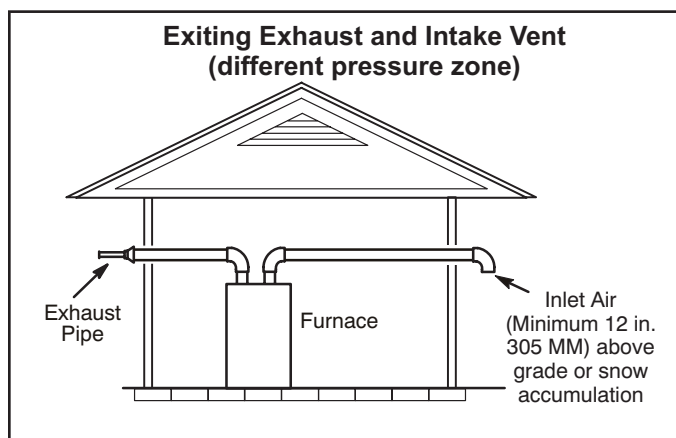
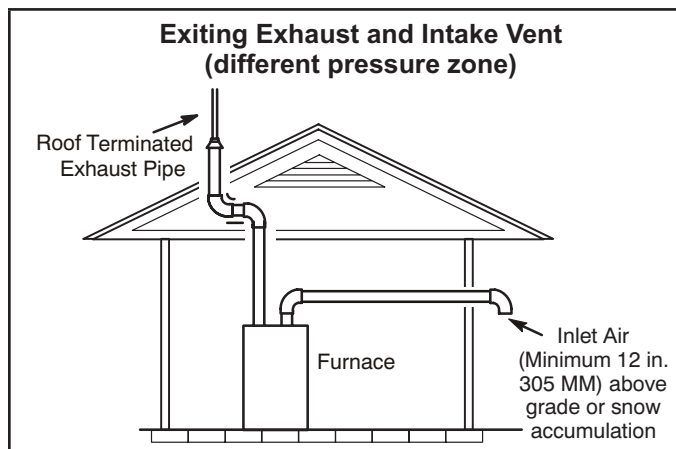

FIGURE 38
FIGURE 39
- 1 - Vent terminations are not required to be in the same pressure zone. You may exit the intake on one side of the structure and the exhaust on another side ("FIGURE 38"). You may exit the exhaust out the roof and the intake out the side of the structure ("FIGURE 39").